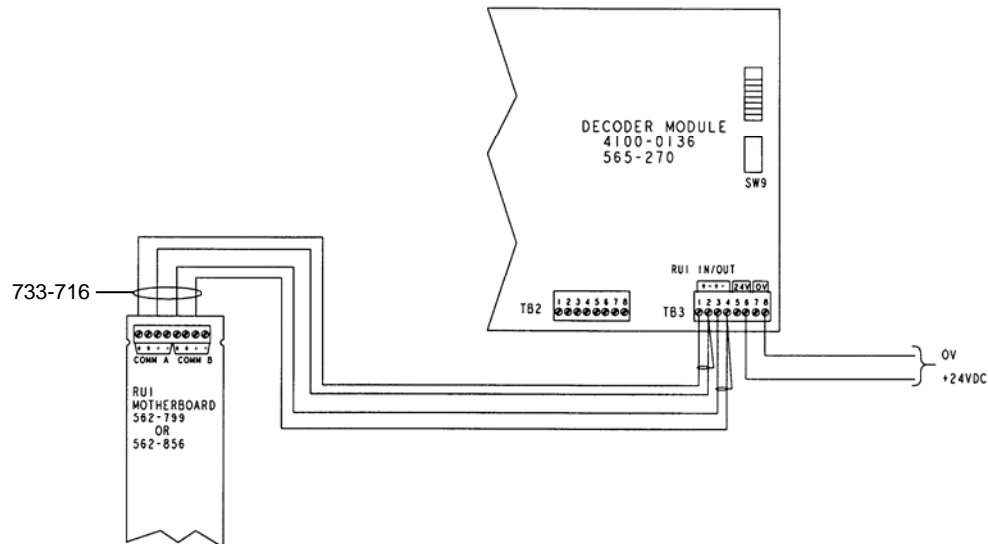

Figure 11. Decoder Module Wired RUI Style 6 (Class A)
2. Using the 733-716 Harness, complete the connections to the “+” and “-“ RUI terminals as Figure 11 shows.